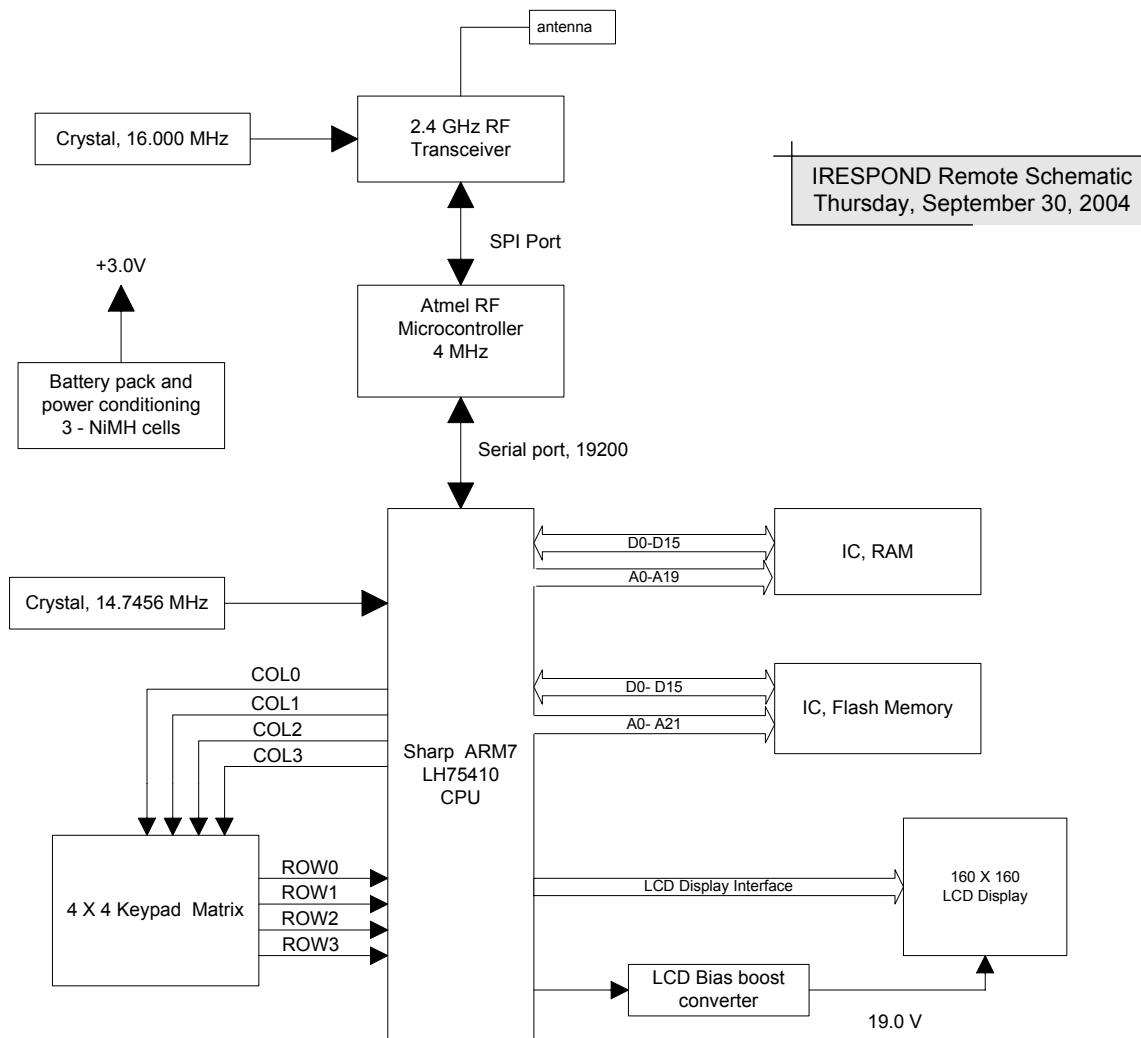

Figure 1. Remote Schematic Block Diagram
3.0 REMOTE Description. As shown in figure 1. The Sharp ARM7 32 bit CPU controls all of the Remote tasks, reading the keypad , updating the LCD display and communicating with the Atmel RF microcontroller. The ARM7 sends and receives message to the Atmel via a 19,200 Kbaud serial link. The Atmel 8 bit microcontroller executes the Micro Systems application interface and the Ember Corporation Protocol Stack. The EmberNet Stack coordinates data flow from the Atmel microcontroller to the EM2420 RF transceiver as shown in Figure 1.